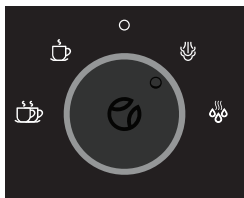

Fig. 9
3. Place the Steam Wand directly over the drip tray, and rotate the Dynamic Control Dial to the Steam Function (see Figure 9).